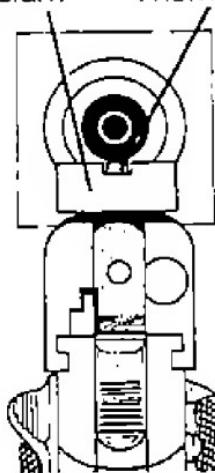

FIGURE 8—AIMING
3. Grasp pistol by stock and, with index finger resting along the outside of trigger guard, take aim. Aim by aligning target with front and rear sights. (See Figure 8) After identifying your target and seeing that it is clear to shoot, focus on the front sight. Be sure you have a safe backstop.